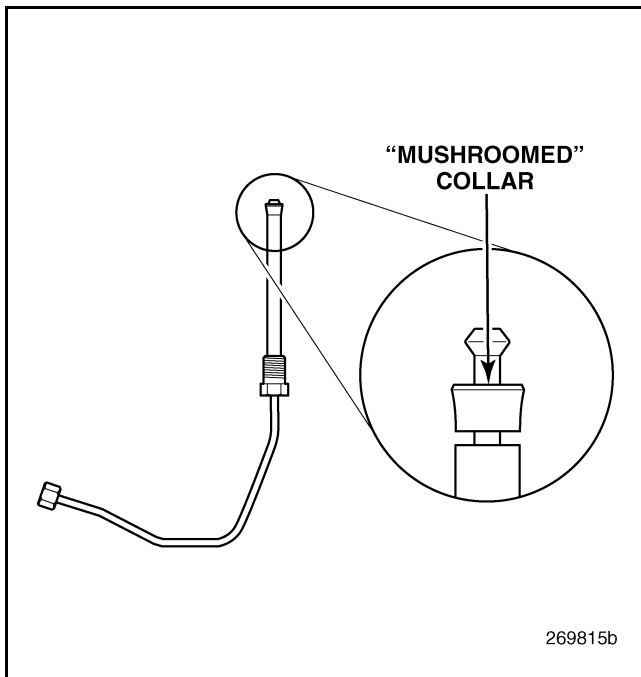

Figure 399 — “Mushroomed” Collar
2. Inspect the high-pressure fuel lines before installation. If the collars of any of the high-pressure lines are "mushroomed" or exhibit other types of damage, replace with a **new** fuel line. An example of a mushroomed collar is shown in Figure 399.